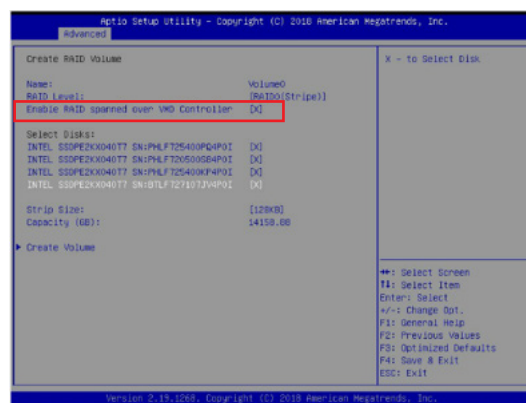

Figure G-4. Created Volume *with* enabling RAID spanned over VMD controller
8. Switch to **Advanced > Intel(R) Virtual RAID on CPU > All Intel VMD Controllers > Create RAID Volume**.
11. If cross-controller RAID is required, select **Enable RAID spanned over VMD Controller** as shown in Figure G-4.